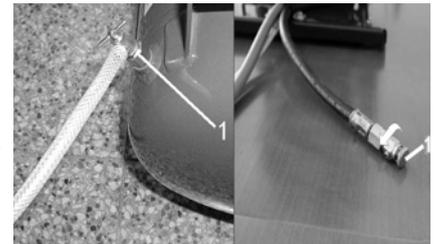

Fig.14
#### Compressors (Fig.14, Fig.15)
If the compressor will not be used for a prolonged time period, drain any condensate from the air tank. Then turn on the compressor for 10 minutes, keeping the drain valve open (1) (Fig.14, Fig.15). Switch off the compressor by switch (3) at pressure switch (2) (Fig.13), close the drain valve and disconnect the appliance from the mains.
- Release air pressure in the pressure tank by opening the drain valve (1) (Fig.14, Fig.15).